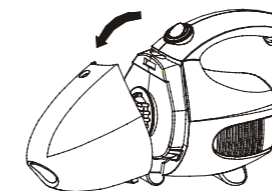

fig.1
- To open the Dust Cup (container) (5), push button (2) and pull out the Dust Cup (container) (5), (fig.1).